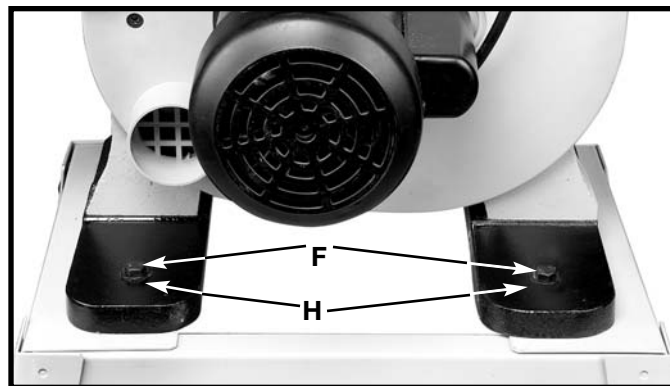

Fig. 7
3. Place a 3/8" flat washer (H) Fig. 7 on M8 x 45mm hex head screw. Insert the screw through the hole in the band saw and and through the hole in the stand. Repeat this process for the three remaining holes.